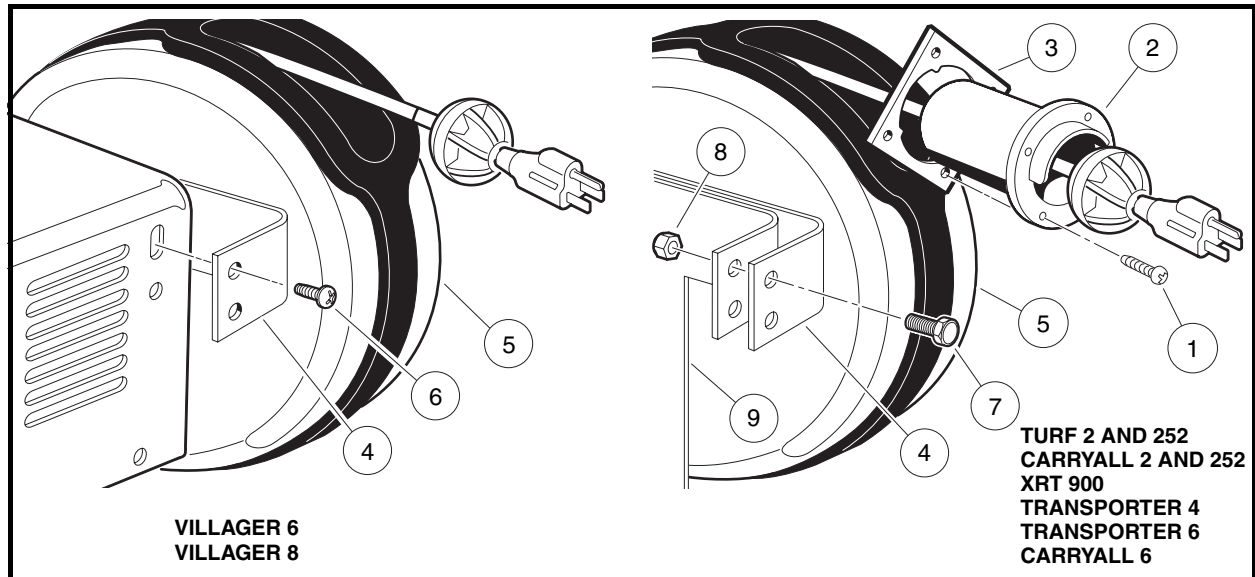

Figure 6-21 Retractable Cord Reel Mounting Details
4. **Carryall 2/252, Turf 2/252, XRT 900, Carryall 6 and Transporter 4 and 6:** Remove four screws (1) securing the cord reel housing (2), and its backing plate (3), to vehicle (**Figure 6-21, Page 6-31**).
5. Remove hardware securing U-shaped bracket (4) of retractable cord reel assembly (5).